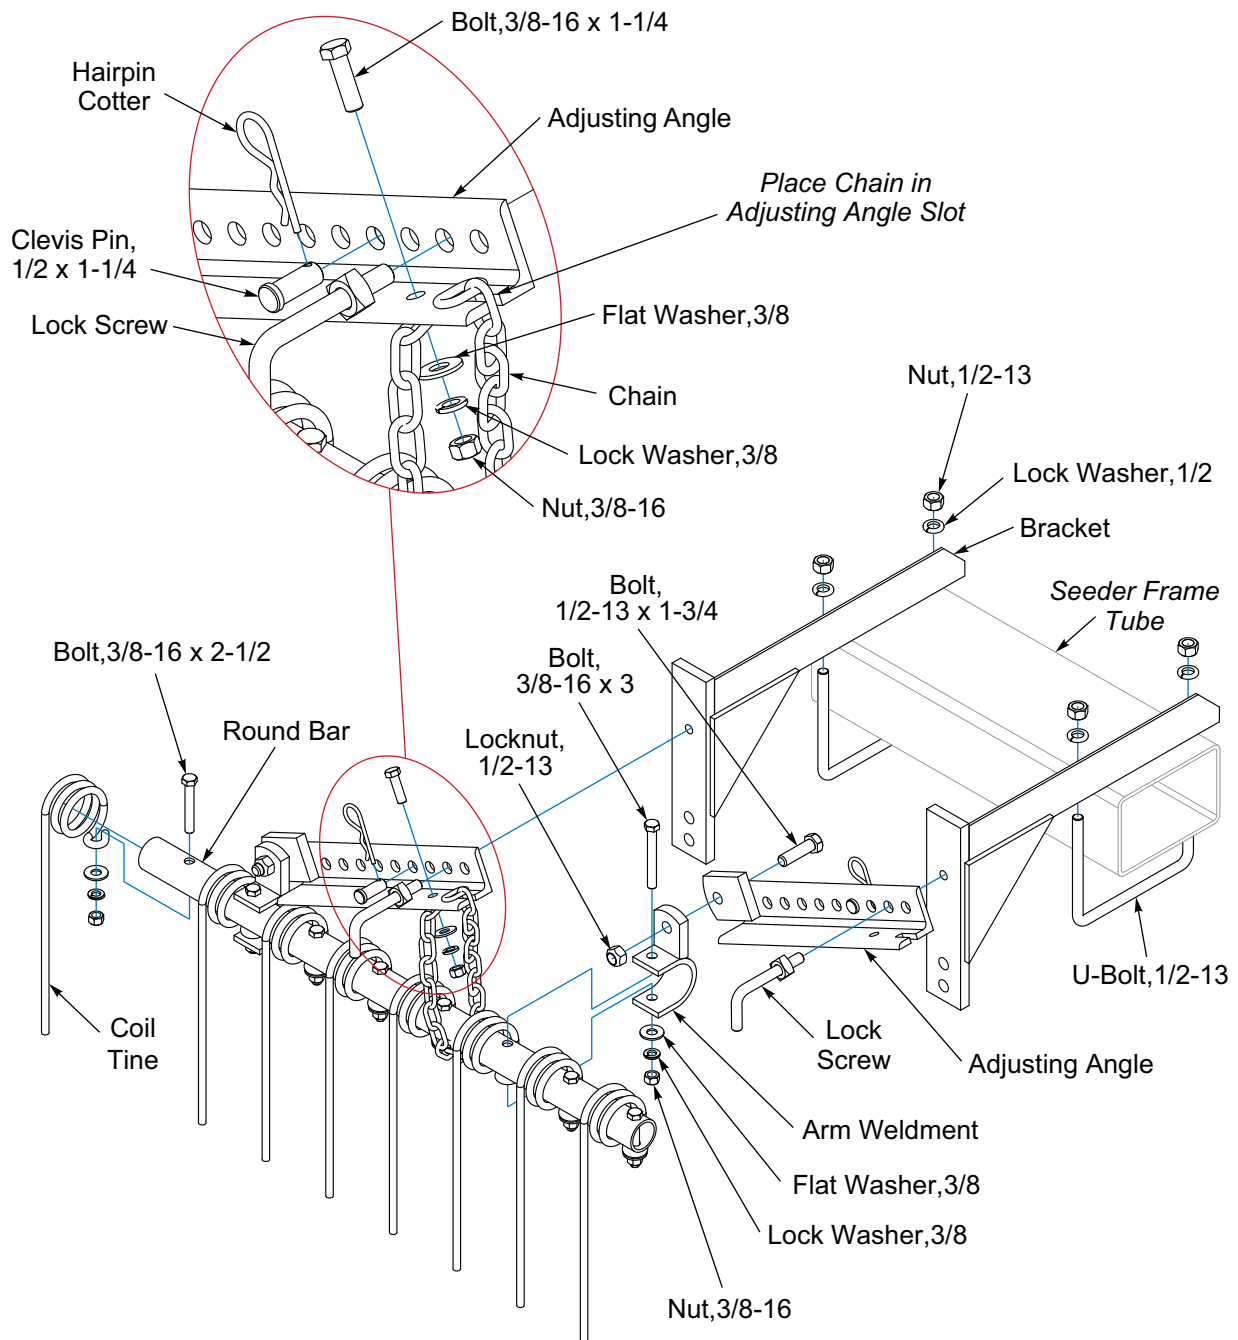

Figure 2-81: Coil Tine Setup
1. Slide the Coil Tines onto the Round Bar so that the straight leg is frontward. **See Figure 2-81.**